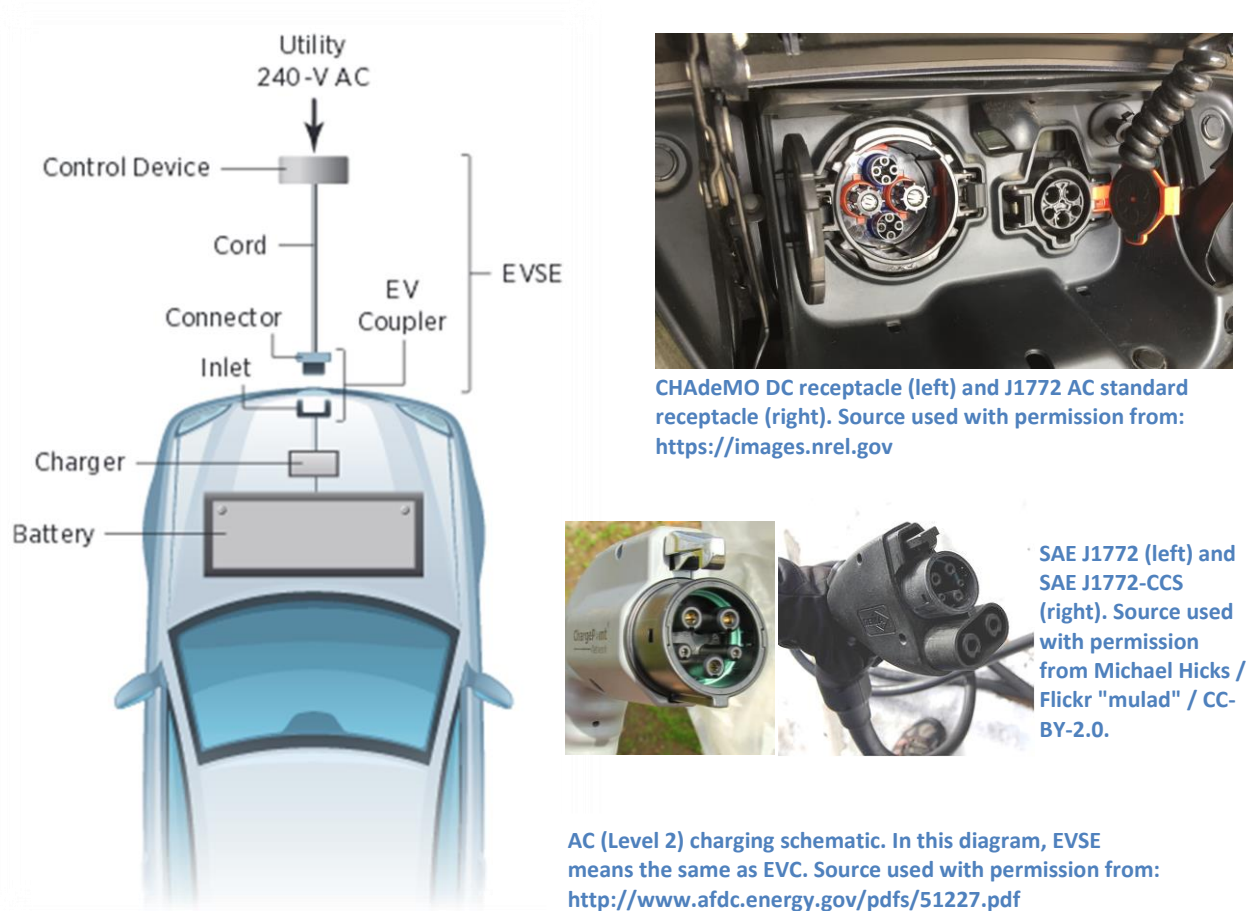

Figure 2: EVC schematic and connector inlet image
Chargers are also classified by the kind of connector on the charging cord. There are currently two competing standards sold in the United States: SAE J1772, developed by SAE International, and CHAdeMO, developed by an organization of the same name. The connector inlets can be seen in Figure 2. The SAE J1772 standard covers both AC (J1772) and DC (J1772-CCS)² charging, while the CHAdeMO connector is only used for DCFC charging. Tesla also has a proprietary connector for their charging
It is important to note that not every car will be able to take advantage of an EVC's full power output. For example, many vehicles are not compatible with DC fast charging and therefore do not have DCFC charging ports. In addition, for all charging levels, the limiting component can either be the vehicle on-board equipment or the EVC. While all external charging devices are commonly called "chargers" (including in this guide), Level 2 chargers merely provide an electric current – the actual "charger" that manages energy flow into the battery is located inside the vehicle, as shown in Figure 2. Different vehicles allow different Level 2 charging rates depending on their internal charger. Older models and PHEVs may only be capable of about 3 kW of charging capacity, while many other PEVs can charge at approximately 7 kW and still others can charge at rates as high as 19 kW.
- *Number Charging Ports/Type*: The number of EVs that can charge simultaneously and the connector type (e.g. J1772, CHAdeMO, see Figure 2 for examples)